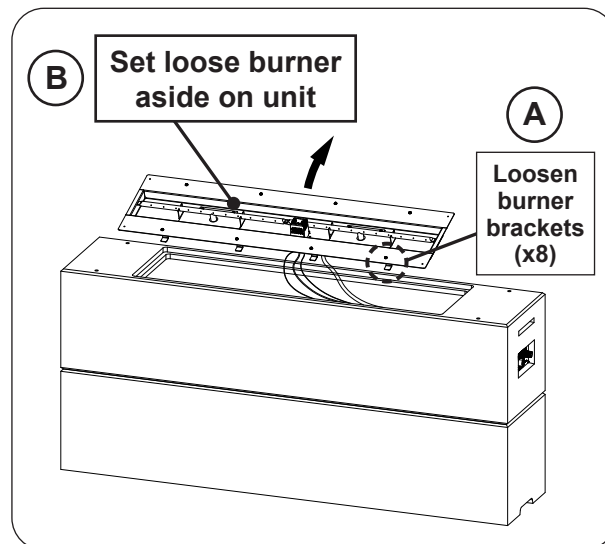

Fig. 26-3 Gain access to interior of unit
1. Use a  $\frac{5}{16}$ " nut driver to loosen the 8 screws found on the burner assembly (see Fig. 26-3, A).
2. Carefully lift out the burner just enough to set it off to the side (see Fig. 26-3, B).